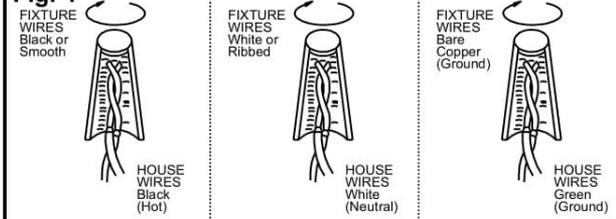

Fig. 5
PREPARATION (Fig. 3 & Fig.5)
1. Loosen hex nut (S) by using wrench (W) (not included). Carefully remove washer (T), lock washer (U), L-shaped metal plate (V), canopy (C), and swivel (P) (Fig.5).
2. Secure glass ball assembly (J) onto all thread (G) on top of fixture body